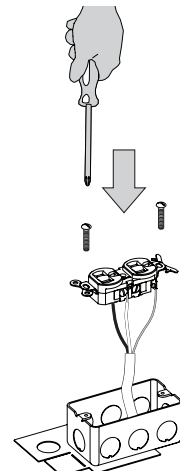

Figure 41
5. Attach receptacle to junction box with screws provided. **See Figure 41.**